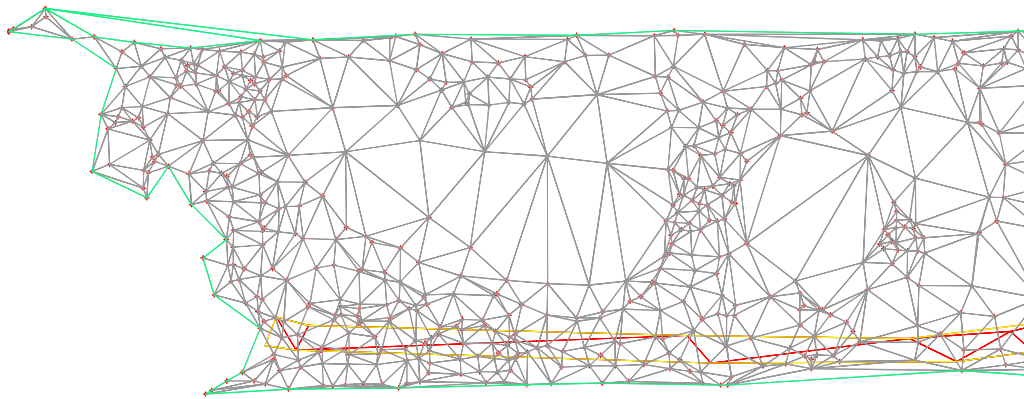

Figure 3-71 The **EG** surface after deleting the **TIN** lines
6. Press ENTER; the selected lines are deleted and the surface is displayed, as shown in Figure 3-71. Press ENTER to exit the command.